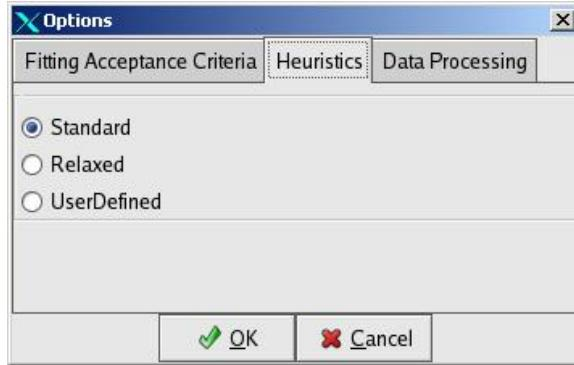

Figure 4.4: The pop-up menu to change the pointing and focus fitting heuristics.
Step 6 Select the new Heuristics mode in the pop-up window. (see Figure 4.4).